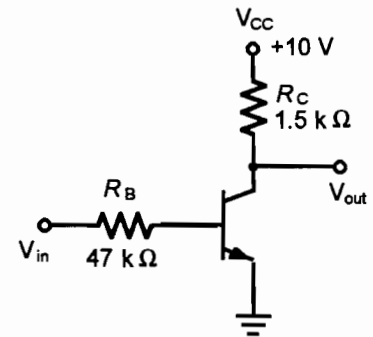

Figure 35.1
1. Connect the circuit in Figure 35.1. Do not apply an input signal at this time.